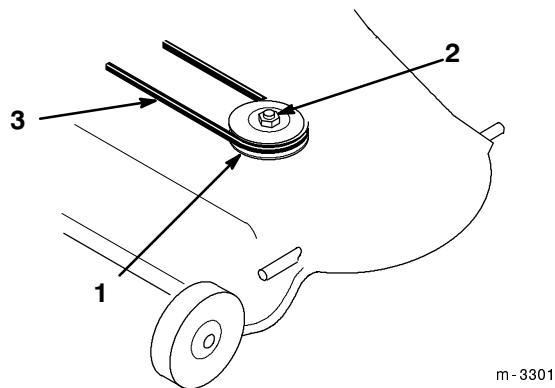

**Figure 28**
2. Pull on mower idler assembly to release belt tension and remove blade drive belt from right side pulley (Fig. 28).
3. Remove nut and lock washer from right hand blade spindle (Fig. 28). Remove double pulley.